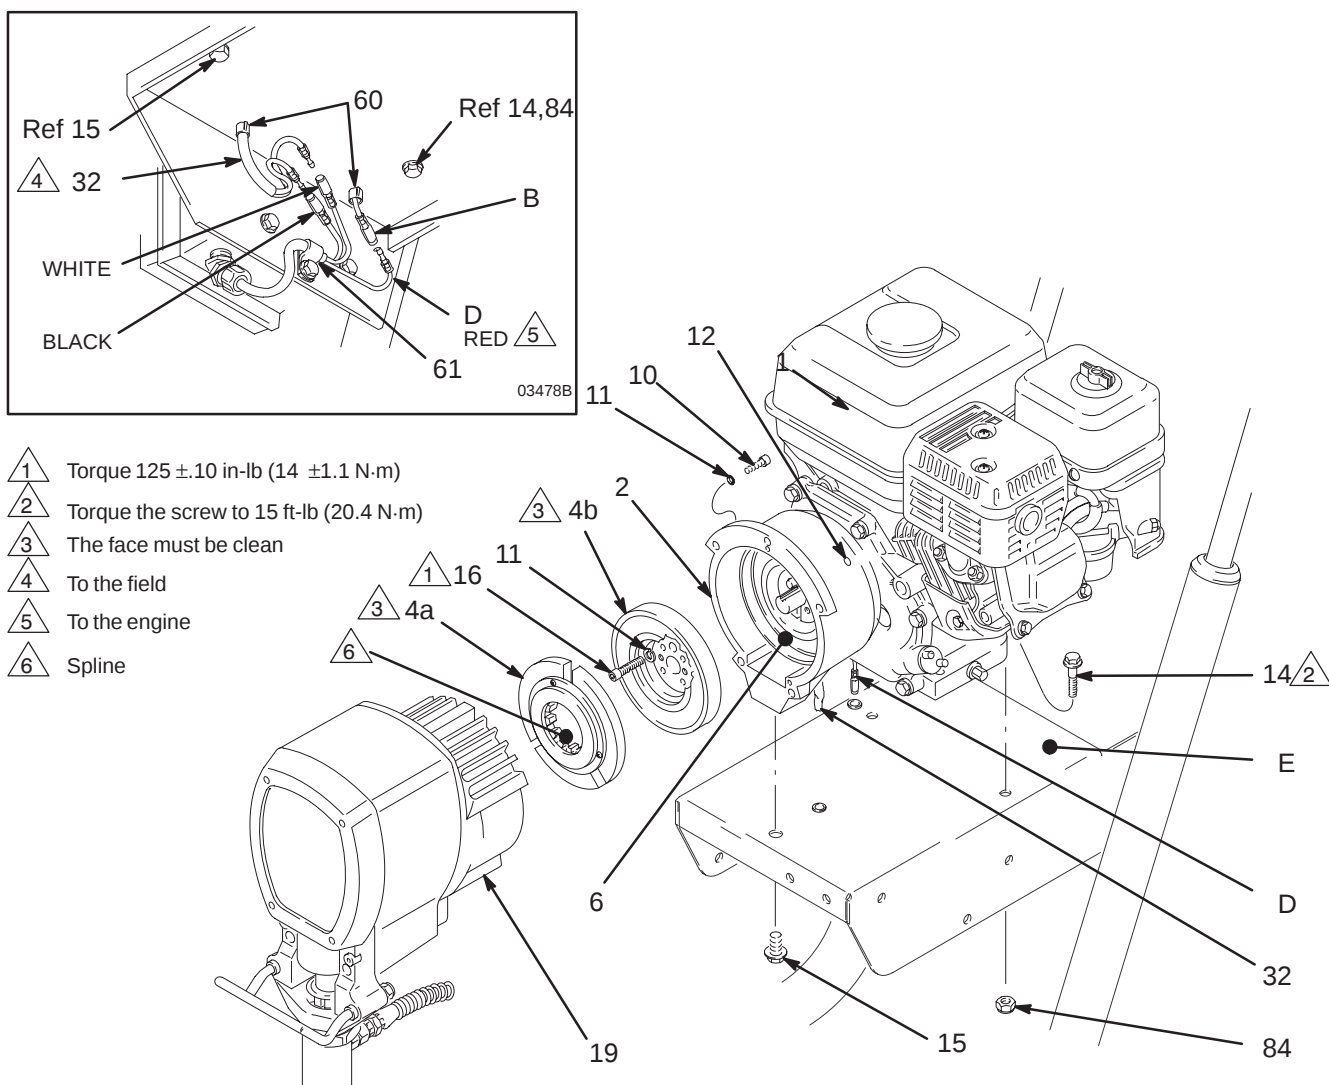

Fig. 19
5. Place the **engine (1)** assembly on the cart. Align the mounting holes. Carefully guide the engine wire (D) and wiring harness (32) from the field, through the appropriate grommets (60) in the mounting plate (E). Install the flange screws (14) and locknuts (84). Torque to 15 ft-lb (20.4 N·m). Install the capscrew (15) from under the engine mounting plate to the clutch housing (2). Connect the engine wire (D) to the red wire, and connect the black and white wires as shown in the Detail drawing in Fig. 19.
6. Be sure the face of the **rotor (4b)** and the field are free of all oil and contaminants. Remove any burrs on the outside edge of the rotor. Install the rotor, lockwashers (11) and capscrews (16). Torque the capscrews to 125 ± 10 in-lb (14 ± 1.1 N-m). See Fig. 19.
7. Be sure the face of the **armature (4a)** is clean. Assemble the armature to the shaft in the pinion housing (19). A retaining ring located within the armature makes it difficult to assemble these parts. Follow this procedure for the best results. First, lock a few splines of both parts. While they are locked, use a screwdriver to gently push the retaining ring into the armature, and finish engaging the splines. Push the armature onto the shaft until it contacts the ring (19m). See Fig. 19.
8. Assemble the **pinion housing (19)** to the clutch housing, using the capscrews (10) and lockwashers (11). See Fig. 19.